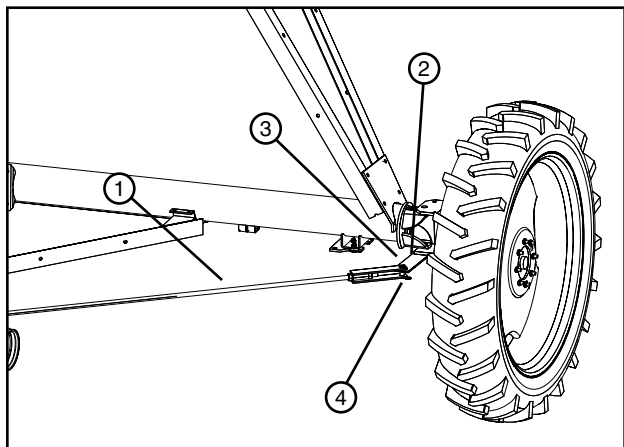

Figure 80-2 1. Tie Rod 2. Steering Arm 3. Clevis Pin 4. Hair Pin
2. Connect end of tie rod to steering arm with one clevis pin and hair pin. See figure 80-2.